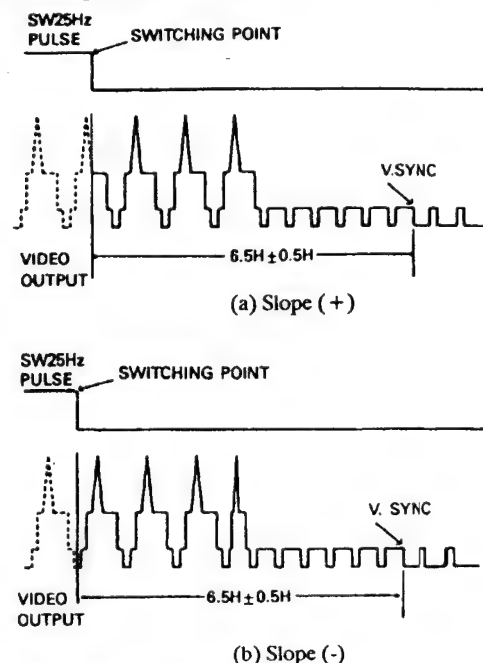

Fig.3 PG Shifter
4. Set the scope to (+) slope and adjust the shifter control (VR603) so that the trailing edge of the SW 25Hz pulse is placed  $6.5H \pm 0.5H$  (horizontal) lines before the start of vertical sync pulse in Fig 3(a)
5. And then, set the scope to (-) slope and confirm the PG in Fig 3 (b).